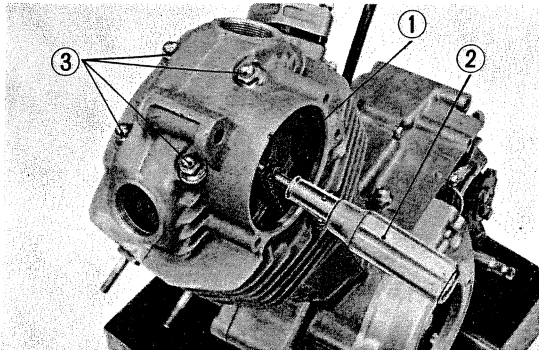

Fig. 44 ① Cam chain ② Screwdriver ③ 8mm cap nuts
- 7) Use a screwdriver to support the cam sprocket and then install the 8 mm cap nuts. (Fig. 44)